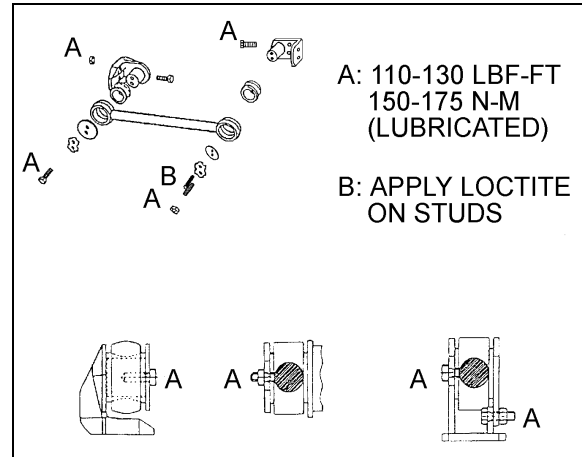

FIGURE 47: RADIUS ROD INSTALLATION
1. Lightly spray the radius rod support with water. Place the radius rod end over the radius rod support (Fig. 47).